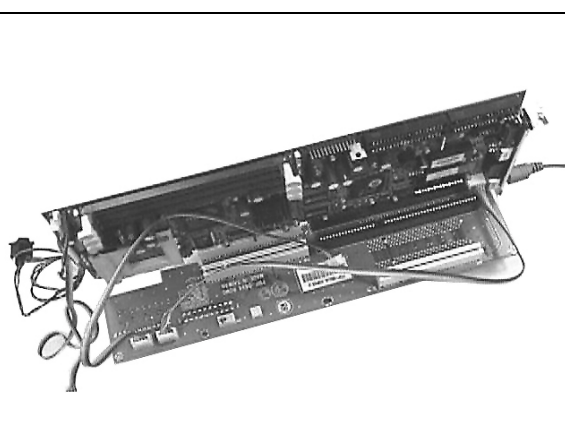

Fig.6
1. If you are using a standard PC/AT keyboard, please apply a 5-pin keyboard control cable between your SBC and backplane over the 5-pin shrouded header KB1. Another keyboard shrouded connector is then used for external keyboard (generally from chassis) (**Fig.6**).